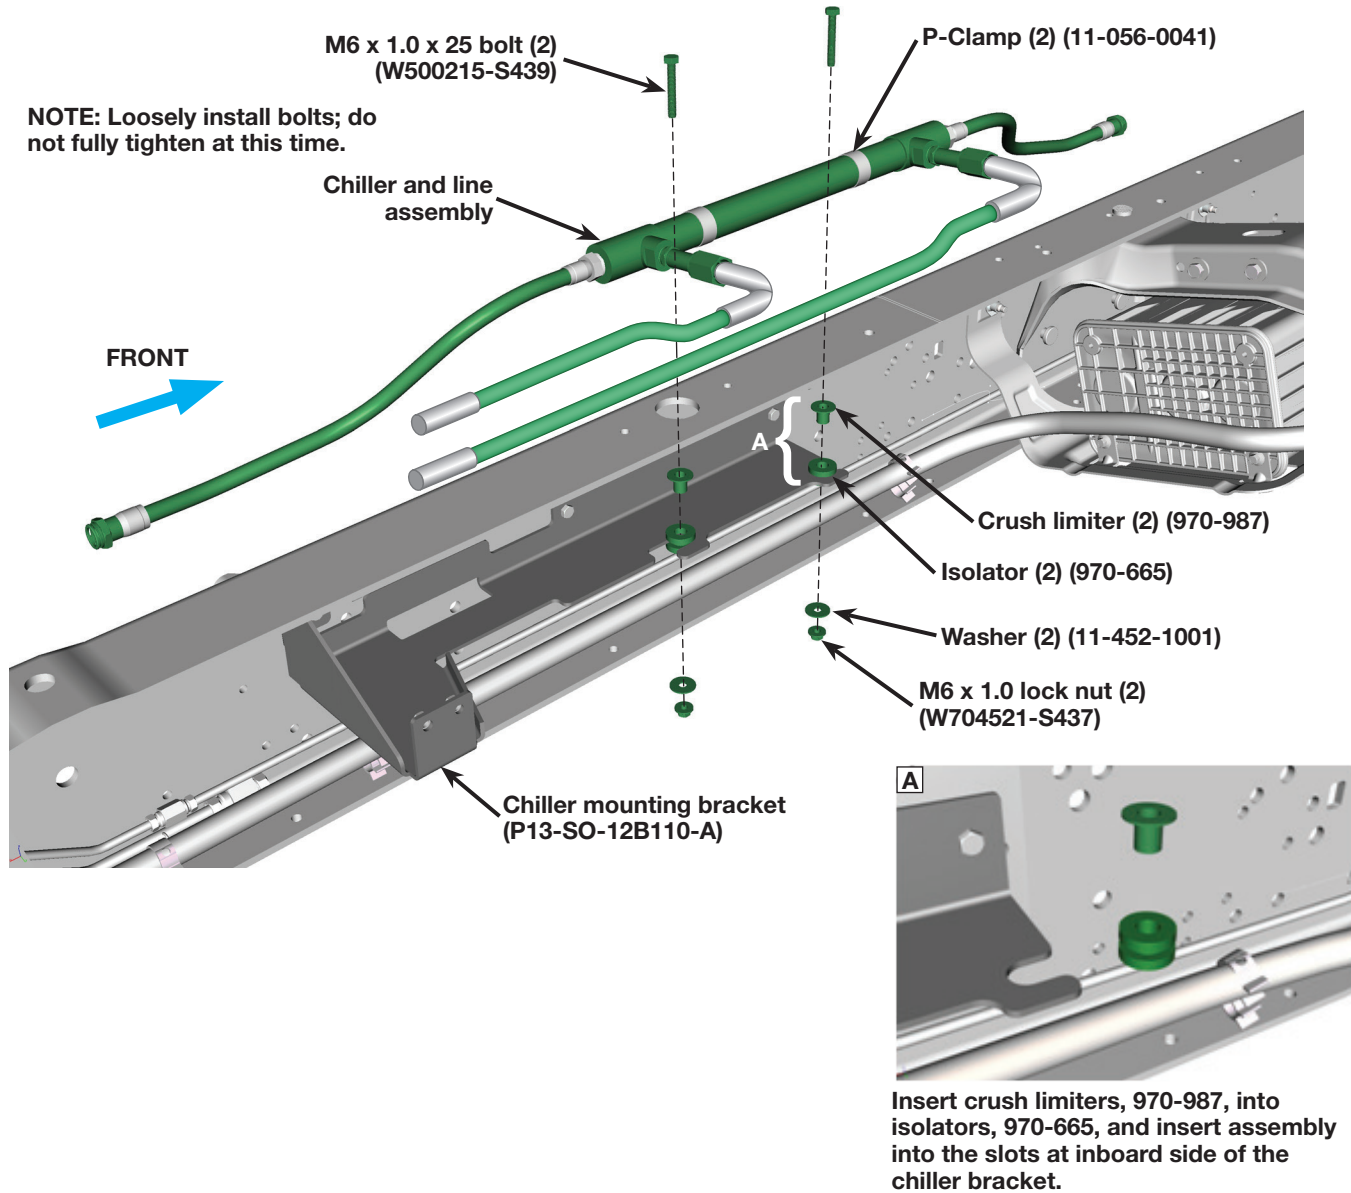

Figure 12 – Chiller Assembly Installation
1. Insert the two isolators, 970-665, and two crush limiters, 970-987, into slots at the inboard side of the fuel chiller mounting bracket, P13-SO-12B110-A (**Figure 12**).